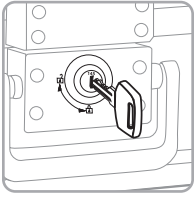

Figure 1
1. Insert key into lock cylinder (Figure 1).